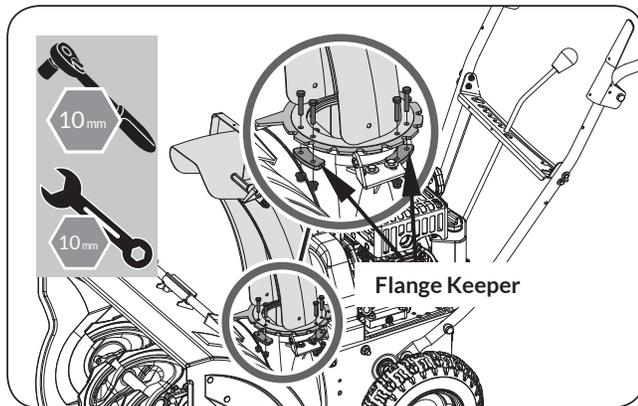

Figure 5c
3. Secure the three flange keepers to the bottom of the chute crank flange by sliding the bolts through the chute base holes, sliding the keepers up from the bottom, then securing them with the included nuts. (See **Figure 5c**)